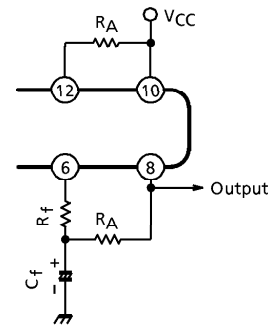

Fig.3
2) When you use this IC at the supply voltage of more than 6V, it is better to insert the resistance  $R_B$  for compensating output DC voltage. (Fig.3)